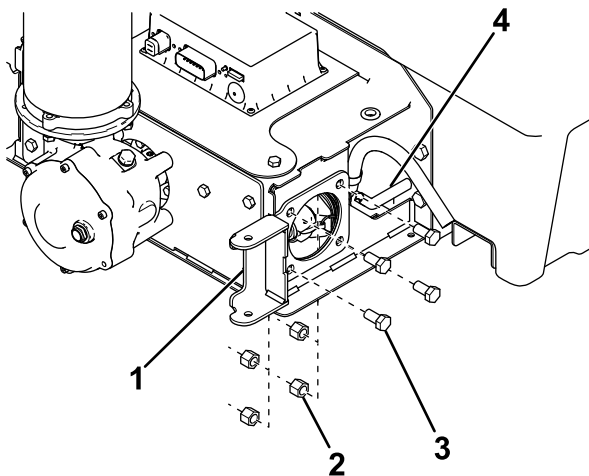

Figure 24
1. For auger spreaders, slide 1 of the edge covers onto the opening in the auger assembly as shown in Figure 24.
2. Remove and discard the 4 bolts and nuts securing the right spinner-assembly pin-lock to the auger or pintle chain assembly (Figure 24). Do not discard the spinner-assembly pin-lock.